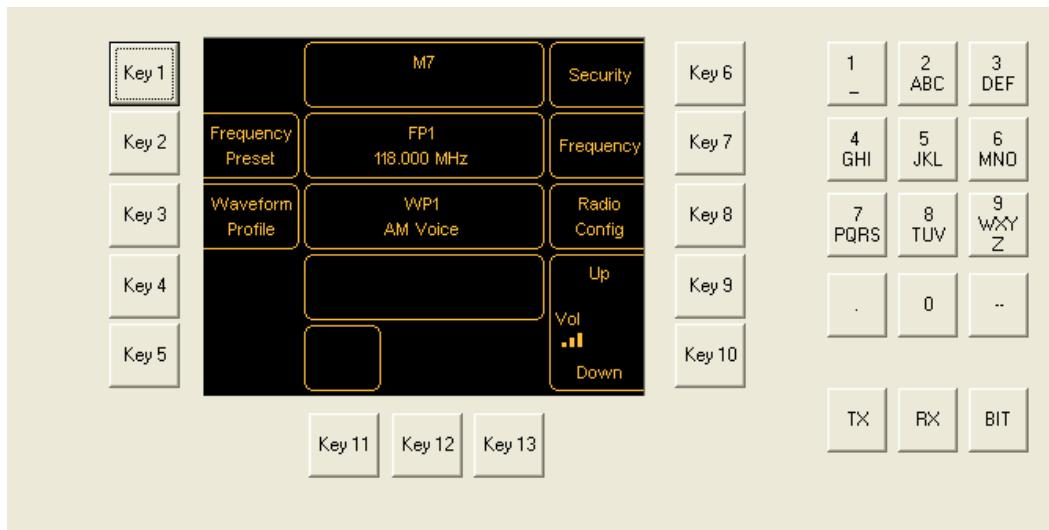
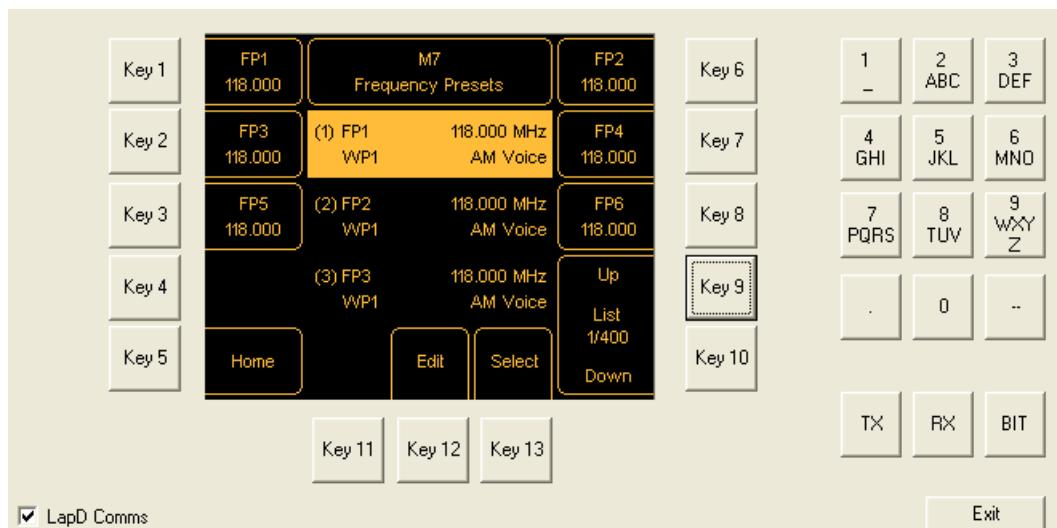

Fig 3-39 Home Screen
Fig 3-40 List of Frequency Presets
- From the Home screen (Fig 3-39) press Key 2 to display the list of frequency presets (Fig 3-40).